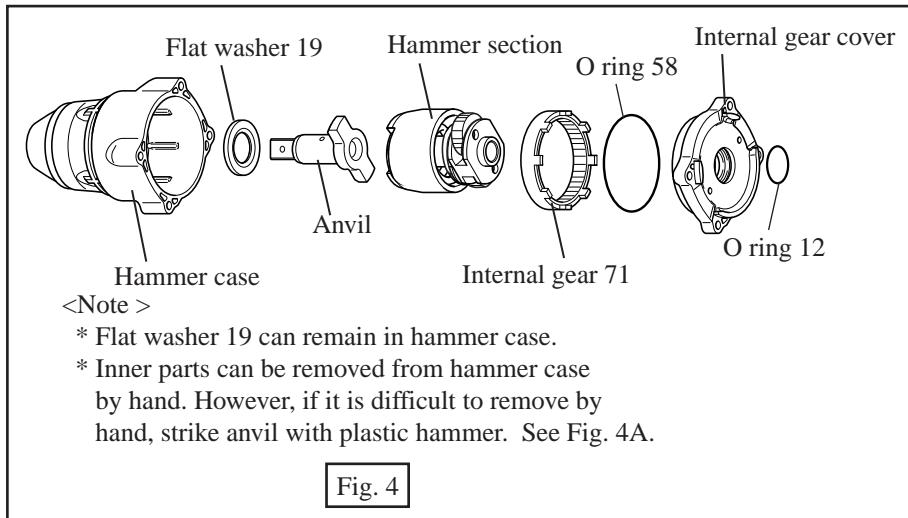

Fig. 4
- (1) Separate internal gear cover from hammer case. Take off the following parts from hammer case. See Fig. 4.